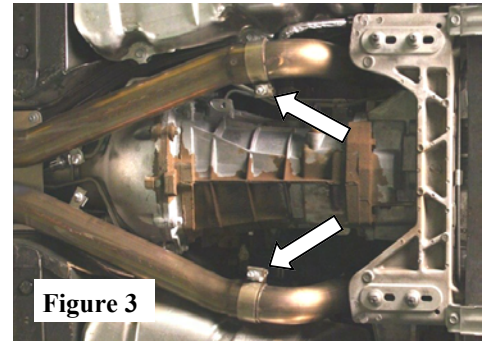

Figure 3
1. Place a clamp over each expanded ends of each Over-Axle Pipe. Starting with the R/H Muffler Assembly, and insert inlet into R/H Over-Axle Pipe and carefully insert hangers into runner isolators. Repeat step for the L/H Muffler Assembly. (See Fig. 3 & 4)